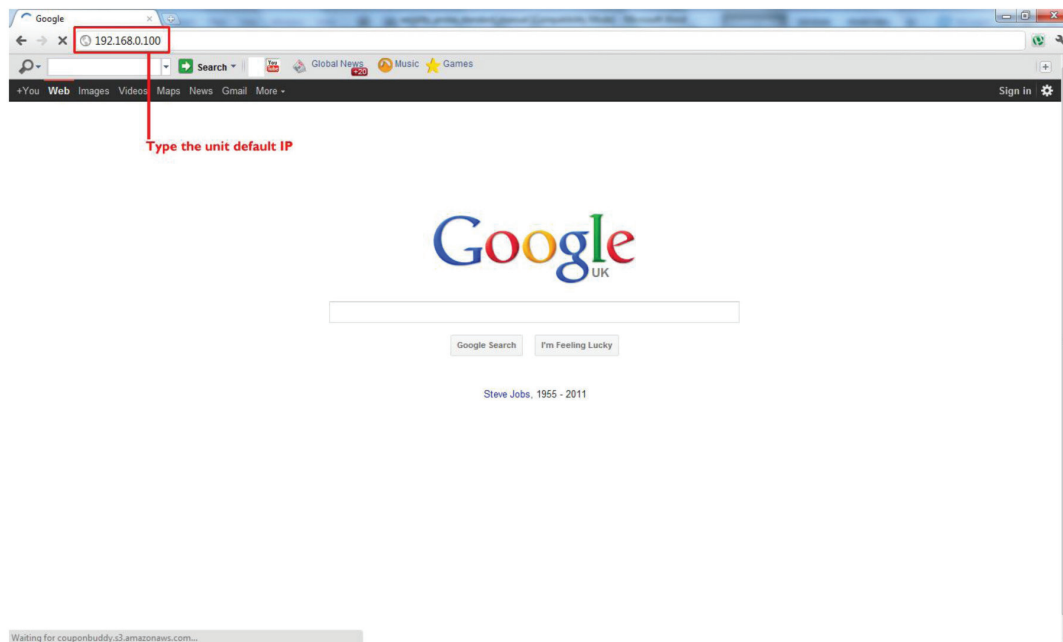

Figure 3-1. Google Web Browser screen.
2. Open a Web browser and type the default IP address (as in Figure 3-1), then press the Enter key.